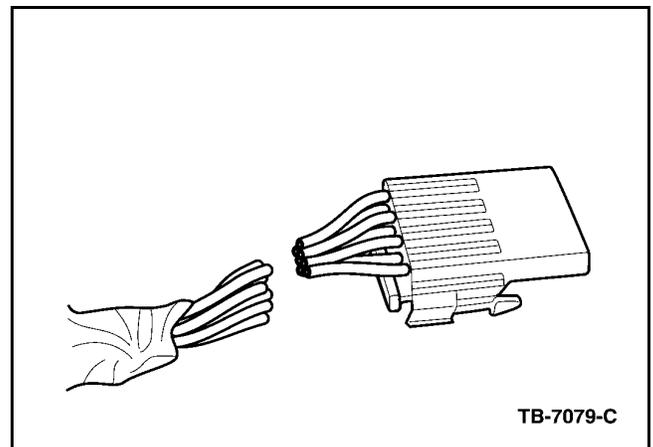

Figure 2 - Article 04-14-7
1. Cut each wire from the extra connector as close to the connector as possible (Figure 2).